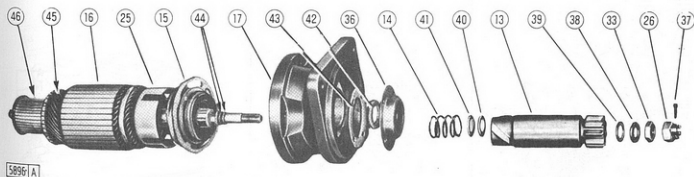

Fig. 255 - Exploded View of Armature and Starter Drive Assembly
take off the brushes and the field terminals, nut (34) and the tie bolts. Remove retaining nuts (26 and 33) and withdraw the parts shown in Fig. 255.
3. Refit wear control washer (39, Fig. 255) to contact the pinion.
- Terminal (51) to solenoid upper moving contact.
- Terminal (53) to negative brush holder.
- Terminal (54) to positive brush holder.